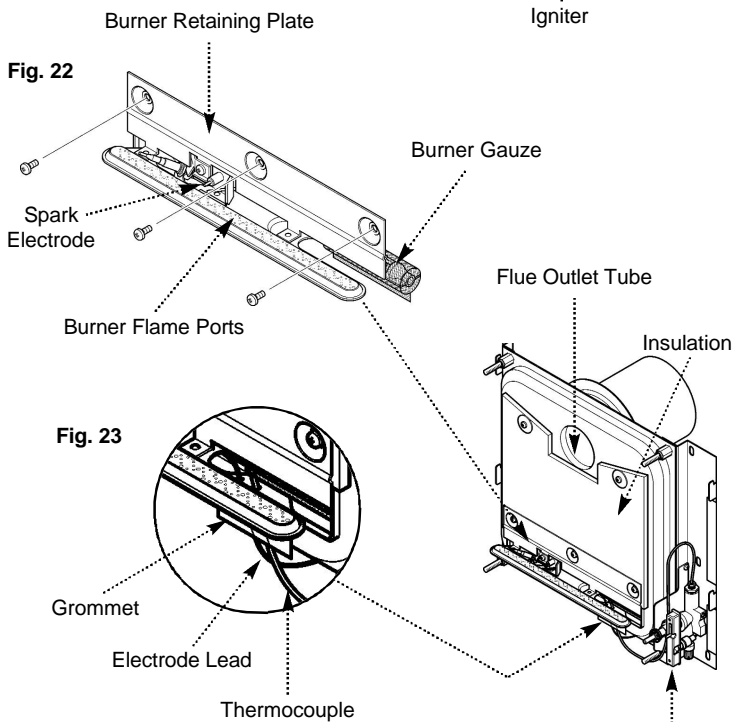

Fig. 23
3. Ease the thermocouple and electrode leads from the rubber grommet (Fig. 23).